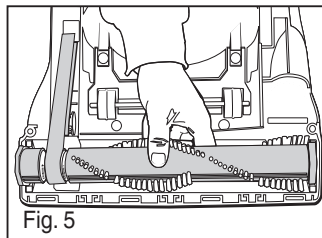

Fig. 5
- 6) Insert right end of brush roll. Make sure end cap fits into base (Fig. 5). **The new belt may appear to be loose. This is normal.**